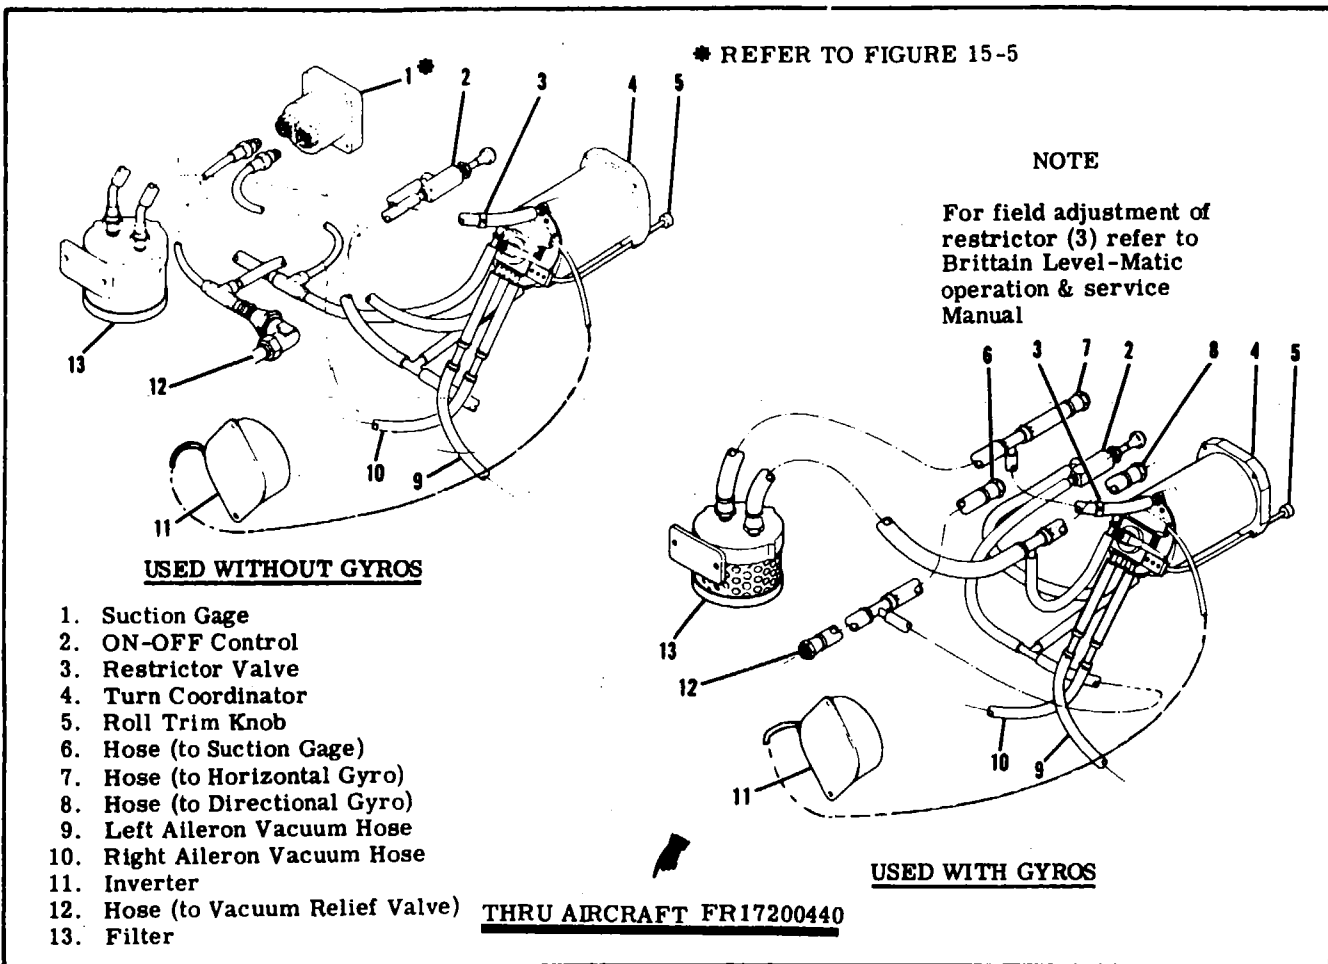

Figure 15-7. Wing Leveler Control System (Sheet 2 of 2)
**15-60. WING LEVELER, THRU AIRCRAFT FR17200440 (Refer to figure 15-7.)**